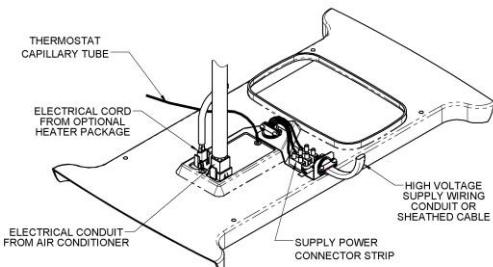

Figure 7
ROUTING 230/240 VAC Wiring – See Figure 7
- C. Raise the ceiling assembly chute and insert the supply wiring through the cable clamp and into the wiring box so that 10-15cm of supply conductor is inside the box. Secure the cable clamp over the supply wire sheath so that no movement is possible (See Figure 7).
- E. Plug the Air Conditioner electrical conduit into the 9-position receptacle as shown in Figure 7.
- F. If the optional heater accessory package is being installed, remove the cover from the 2-position receptacle and plug the heater cord into the receptacle as shown in Figure 7.